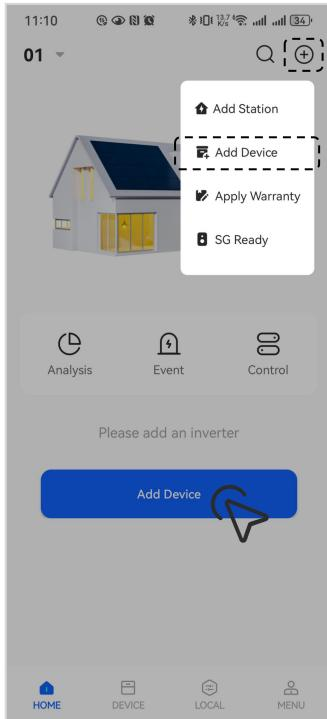

Figure 27
① Now you have a station, but need to configure the network for devices or add new devices to your station?
- Please tap "Add Device" on the page or the "+" button to add devices to your station, as shown in Fig. 27.